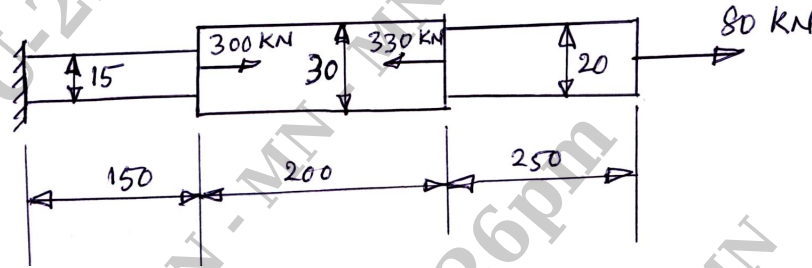

Fig.Q1(b) Dimensions in mm
- b. A steel circular bar has three segments as shown in Fig.Q1(b). Determine :